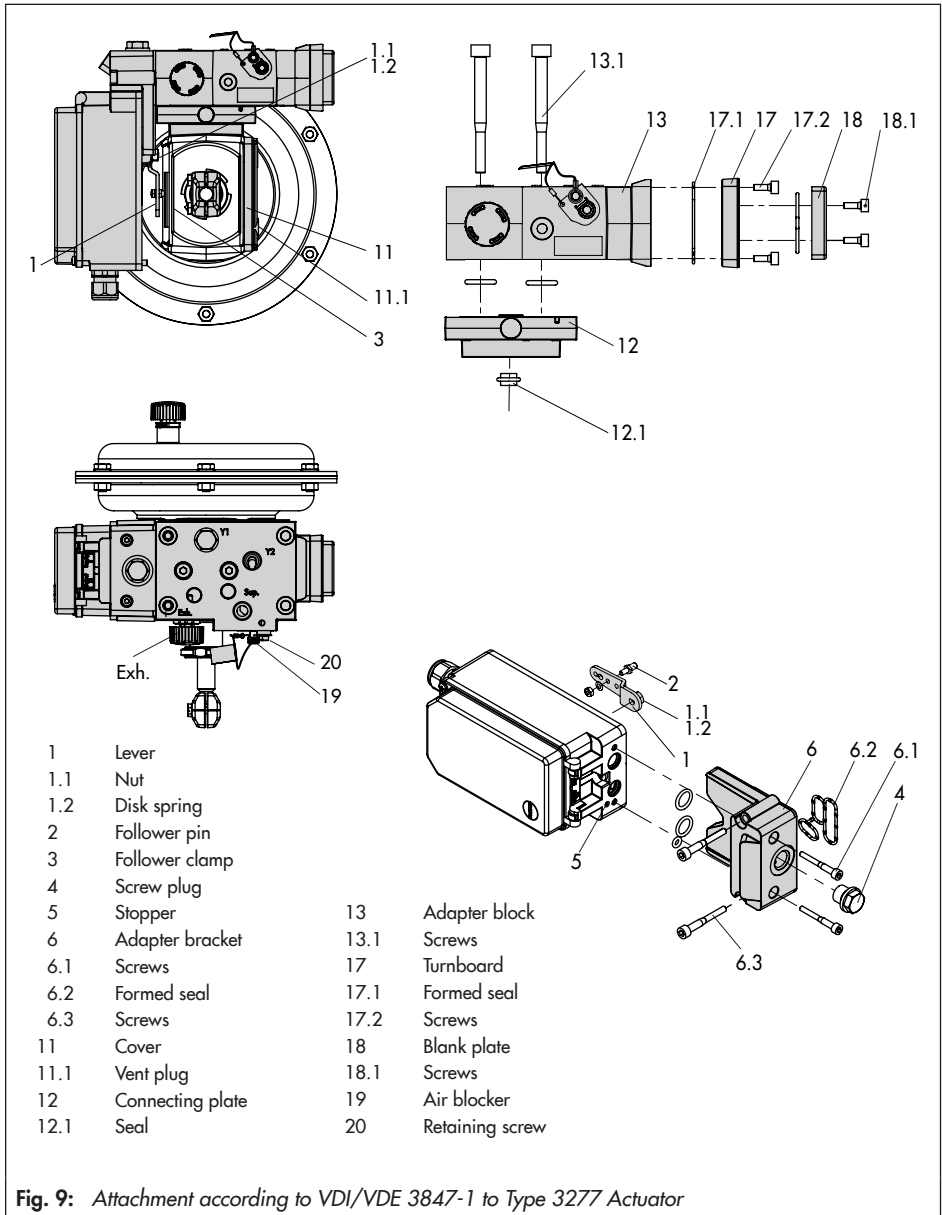

Fig. 9: Attachment according to VDI/VDE 3847-1 to Type 3277 Actuator
→ Refer to Fig. 9
#### Attachment to Type 3277 Actuator (see Fig. 9)
Mount the positioner on the yoke as shown in Fig. 9. The signal pressure is routed to the actuator over the connecting plate (12), for actuators with fail-safe action "actuator stem extends" internally through a bore in the valve yoke and for "actuator stem retracts" through external piping.